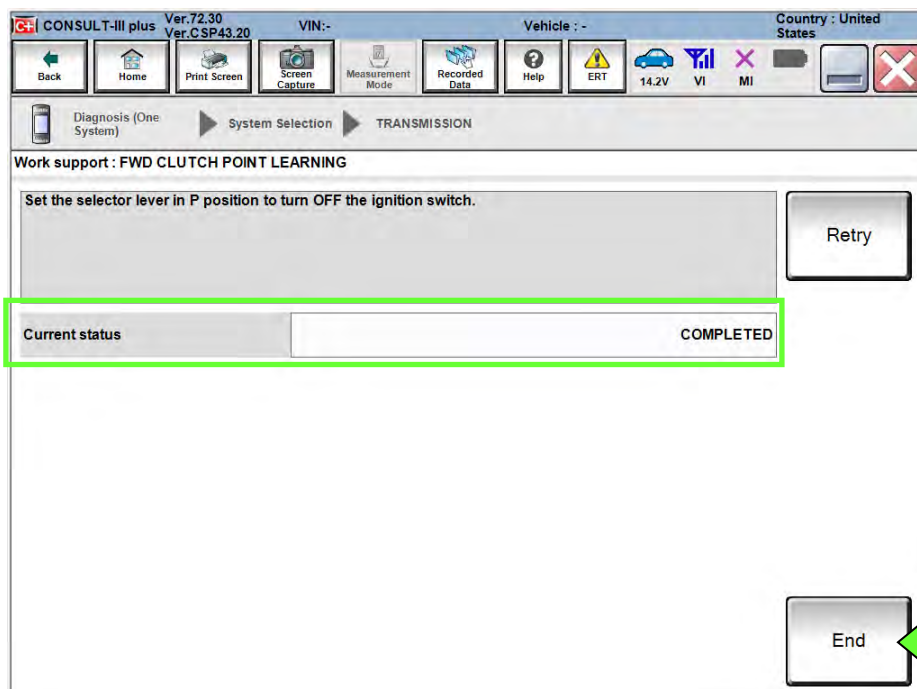

Figure 6L
12. When the screen in Figure 6L is displayed, select **End**.